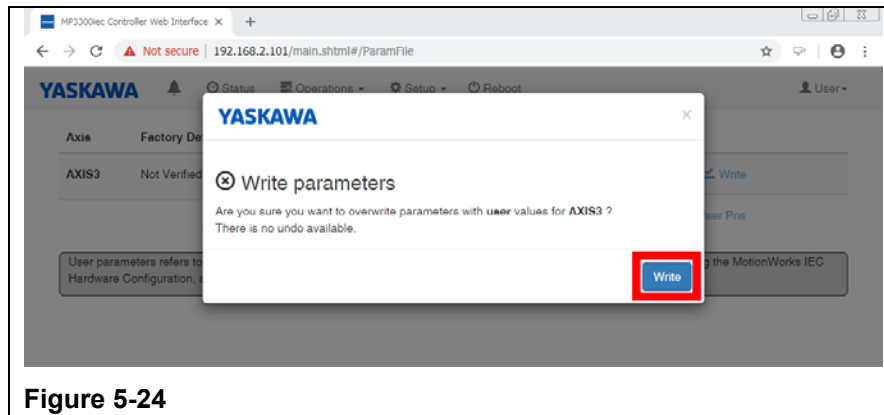

Figure 5-24
- iv. In the 'Write parameters' dialog box press the "Write" Button. (Refer to Figure 5-24)